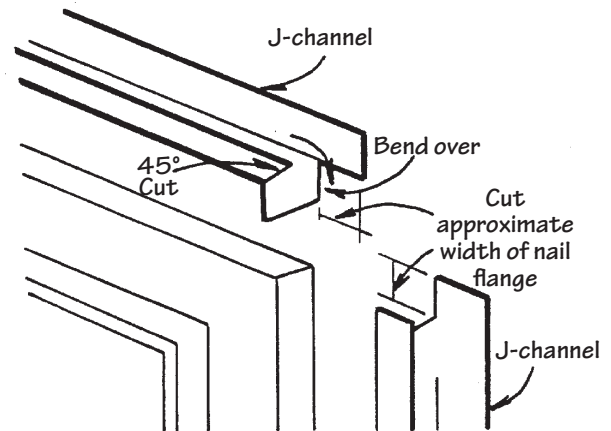

Figure 54.
- Cut the top J-channel the width of the frame plus the width of the side J-channels. Notch the top J-channel on each end, bend the tabs into the side J-channel, and fasten the top J-channel (Fig. 54).